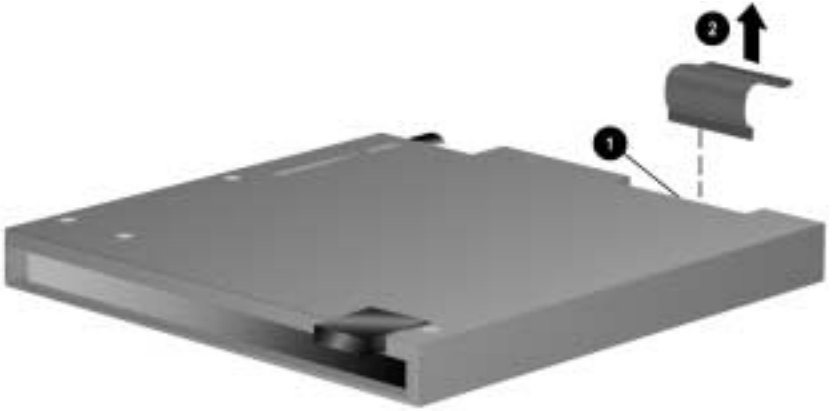

Figure 5-35. *Disconnecting the Diskette Drive Cable*
If necessary, remove the diskette drive cable by releasing the ZIF connector ❶ to which the cable is attached and disconnecting the cable ❷ (Figure 5-35).